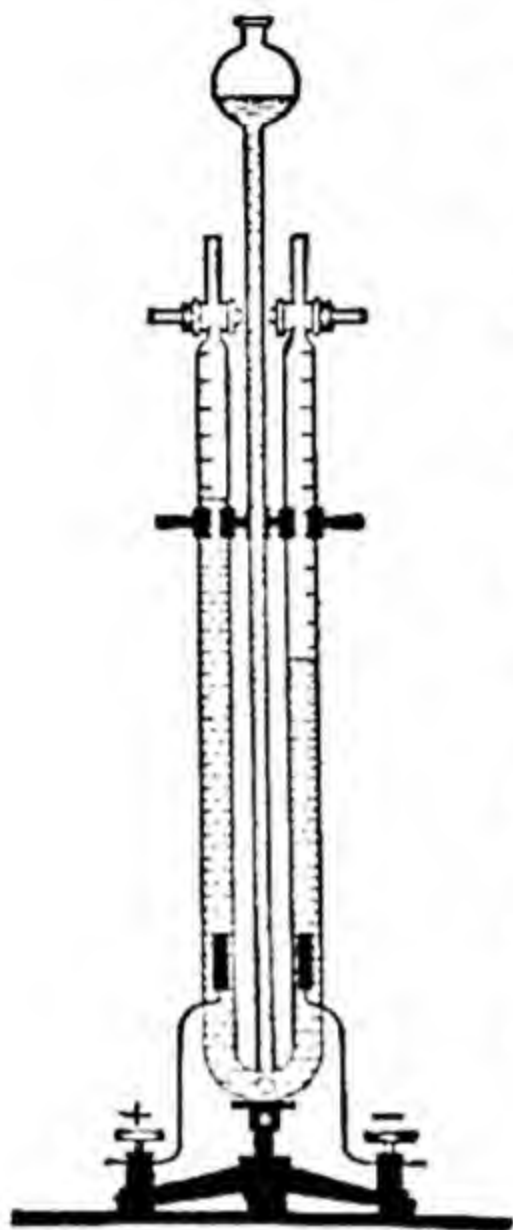

Fig. 47. Electrolysis of water.
4. Electrolysis. When a current of electricity is passed through water made conducting by the presence of some substance such as sulfuric acid or sodium hydroxide, we are able to collect two volumes of hydrogen at the cathode (where the current leaves) to one of oxygen at the anode (where the current enters) (Fig. 47). Since this is the exact proportion in which these gases unite to form water on burning, the experiment adds convincing proof to our ideas on the composition of water.